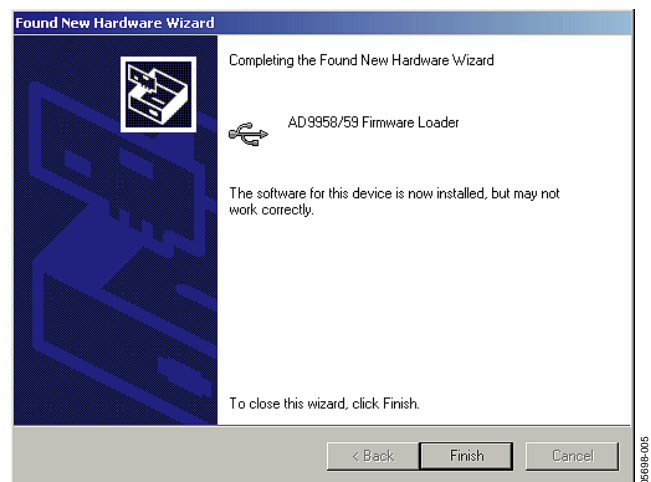

Figure 5.
5. If you are using Windows 2000, click **Finish** if you see this window (Figure 5).